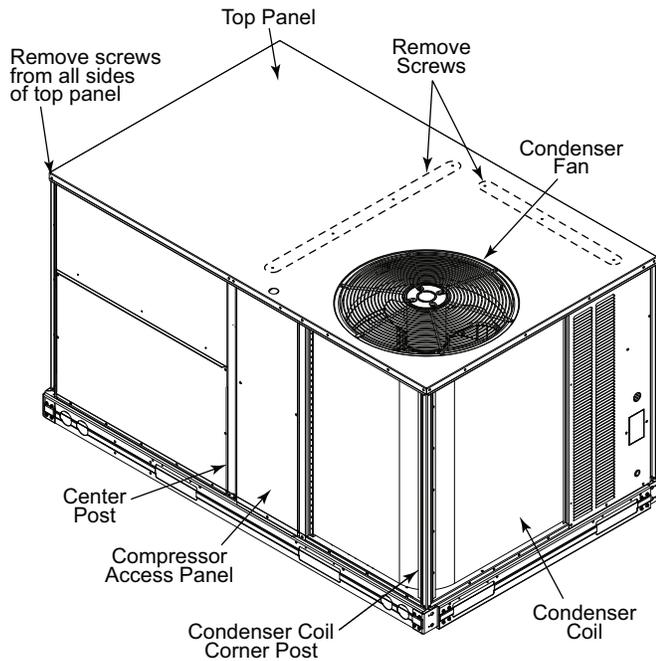

Fig. 13 – Location of Screws and Coil Corner Post
2. Remove all screws from the top panel except the screws securing the condenser fan to the top panel. See Fig. 13.